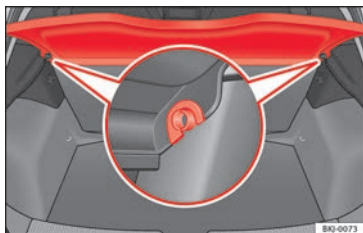

Fig. 168 In the luggage compartment: removing and installing the rear shelf.
- Remove the rear shelf from the side supports » **Fig. 168** by pulling it upwards and then take it out.
- Insert the cover horizontally so that the “recess” fits onto the axis of the supports » **Fig. 168** and press down until it engages.